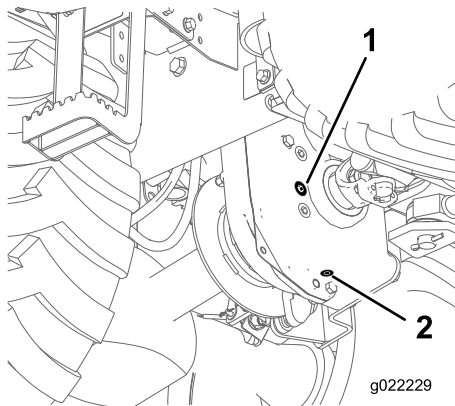

Figure 33
2. Clean the area around the fill plug with a cleaning solvent (Figure 33).